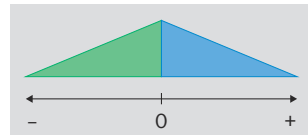

Figure 17: Status indicators
- Indicates whether the line has been detected on the left or the right. The blue and green LEDs are dimmed using a software PWM (base frequency 1 kHz, refresh rate 50 Hz; see figure 17).